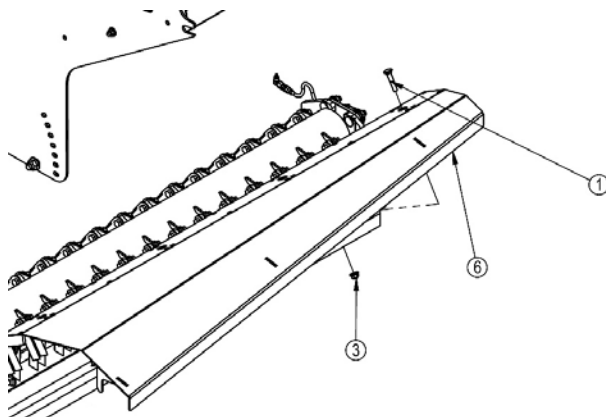

Figure 29: Install the Discharge Pan Over the Frame
25. Install the discharge pan over the BP 661 frame member, see *Figures 29 and 30*.
- Connect the discharge pan (6) to the chopper with 4 of $\frac{1}{2}$ " x 2-1/2" carriage bolts (1) and flange locknuts (3).